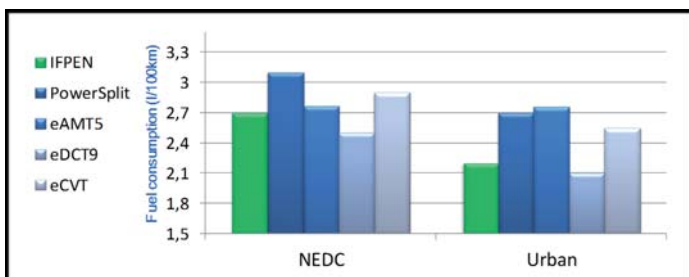

Figure 2 Fuel efficiency for different transmission concepts
After developing off-line energy management strategies, the optimization of the use of these different modes on an HEV B-segment vehicle with a 30kW electric motor (EM), leads to a fuel consumption reduction (of up to 10 %) for a certification driving cycle (NEDC, WLTC) as well as for other mission profiles, by comparison with current hybrid best-in-class applications such as the powersplit concept. In addition it is close to the figures given for high-cost future concepts such as eDCTs (Figure 2). With regard to real-life driving profiles (urban customer use for example), the gain is up to 65% compared with conventional vehicles, and 10 % compared with some hybrid solutions. Part of this gain is obtained by the use of free-wheeling in order to disconnect the ICE automatically during deceleration and thus maximize en-